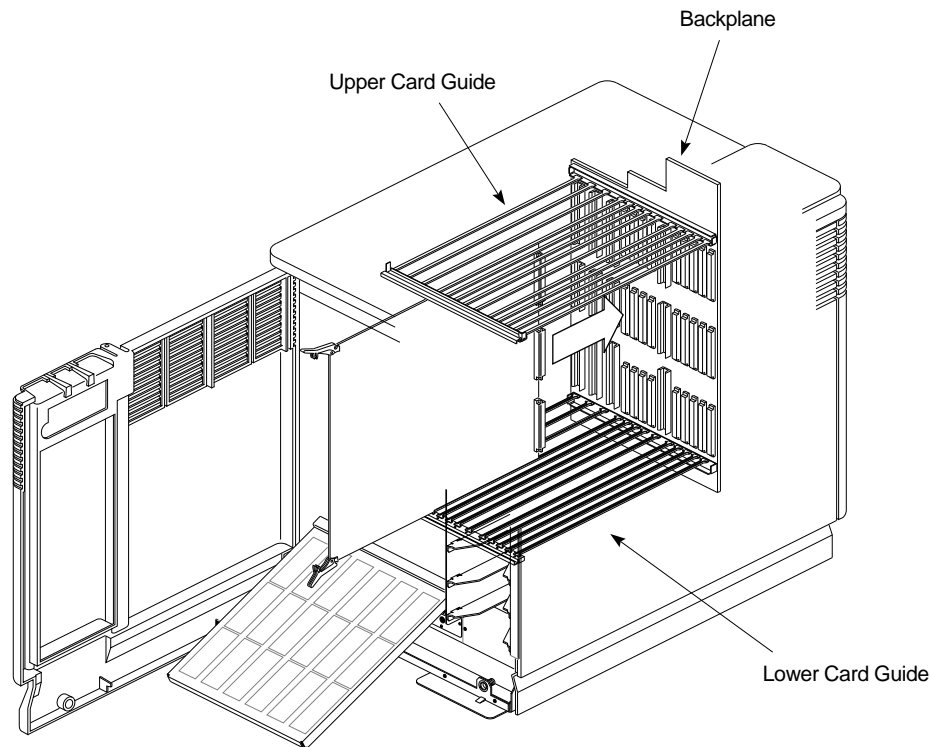

Figure 5-84 Installing/Removing a Board
6. Place the new board in the card guides and slide the board halfway into the chassis (see Figure 5-84). The two rails running along the top and bottom of the chassis act as guides and secure the boards within the chassis.
6. Grasp the option board by the two upper and lower ejector tabs (see Figure 5-84).